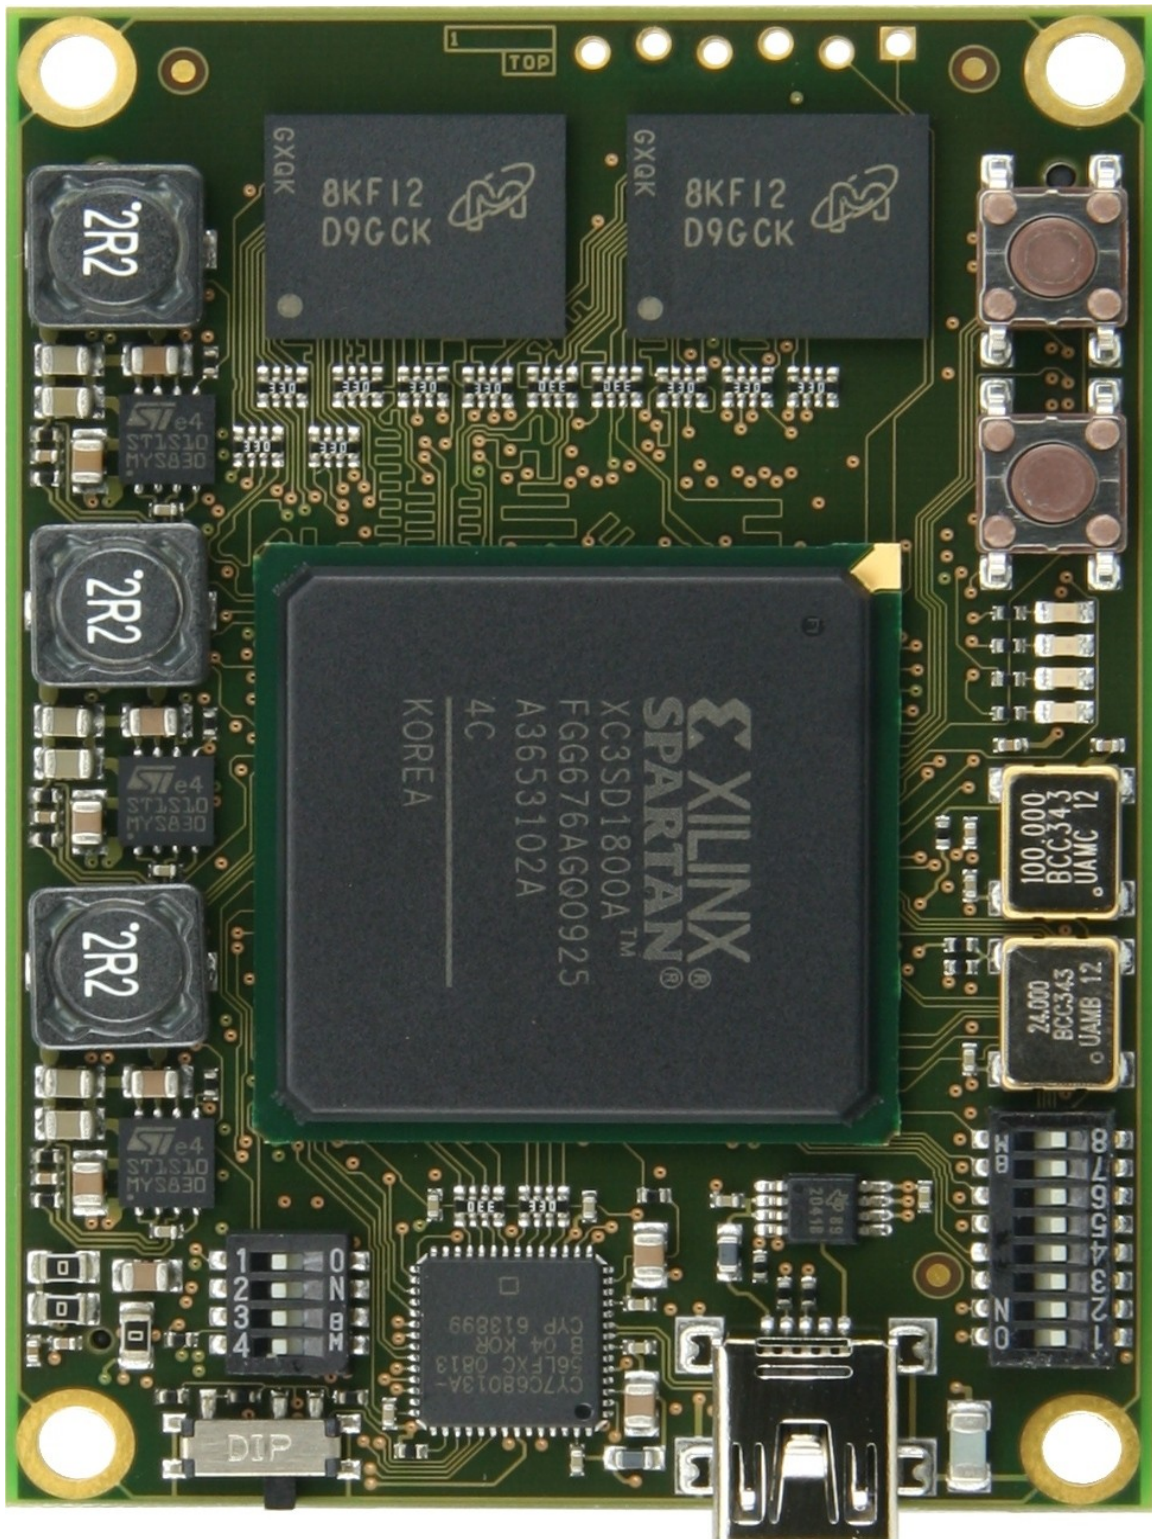

Figure 53: TE0320 high resolution top view.
- (a) Figure 53: TE0320 high resolution top view.